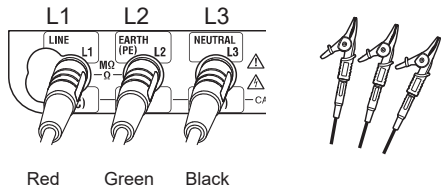

Fig. 12-2
- (1) Press the POWER switch and turn on the instrument. Turn the rotary switch and set to PHASE ROTATION position.
- (2) Press the F1 switch and select “PHASE ROTATION” or “-M- ROTATION”.
- (3) Connect the test leads to the instrument as illustrated below. (Fig. 12-2)